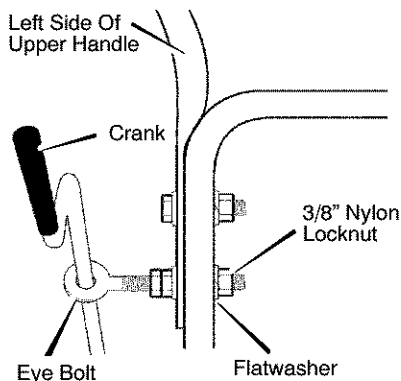

Figure 5
4. Remove the fasteners and the eye-bolt from the lower holes of the lower handle. See Figure 5.